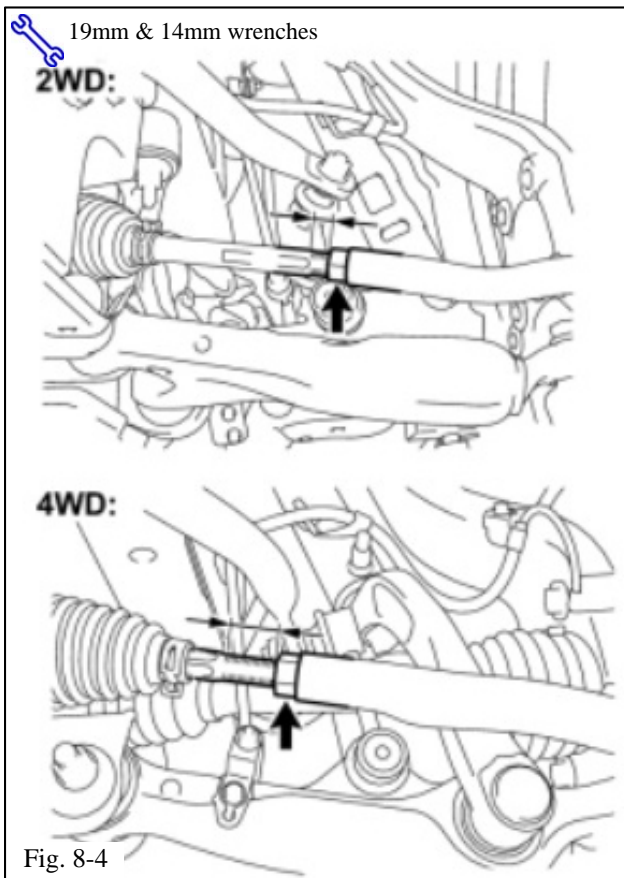

Fig. 8-4
- (1) Confirm the steering wheel is locked in the straight ahead position.
- (2) Remove the outer steering rack boot clips from the boots.
- (3) Loosen the tie rod lock nuts (Fig. 8-4).
- (4) Turn the right and left steering rack ends by an equal amount to adjust the toe-in.
- (5) Make sure that the thread length of the right and left steering rack ends are the same (small arrows, Fig. 8-4).
- (6) Tighten the tie rod lock nuts (Fig. 8-4).